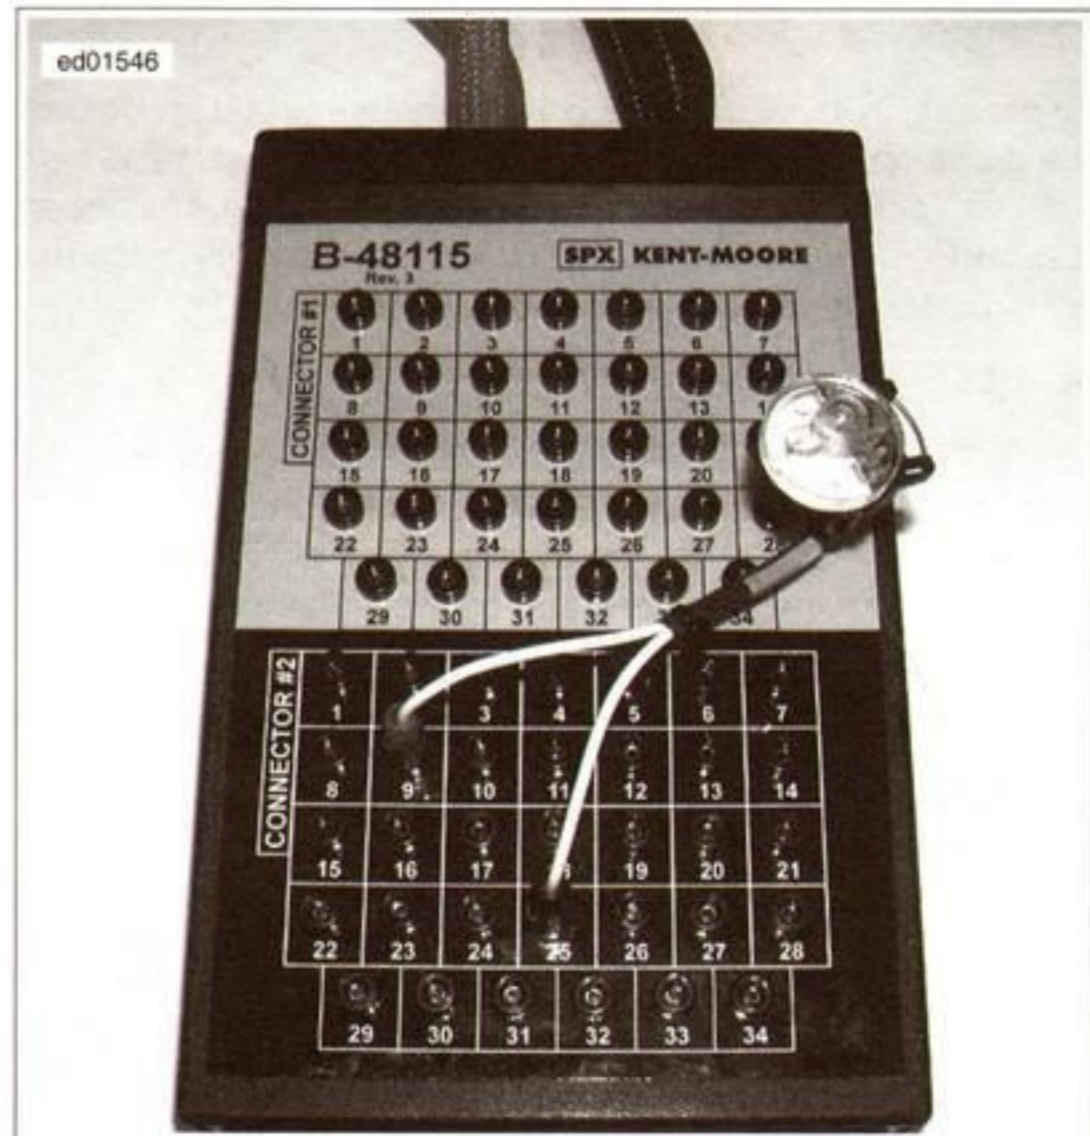

Figure 1-22. Fuel Injector Test Lamp
3. See Figure 1-22 for typical setup. Connect one side of the fuel injector test lamp to power and the other to the terminal on the ECM for the circuit you are testing.